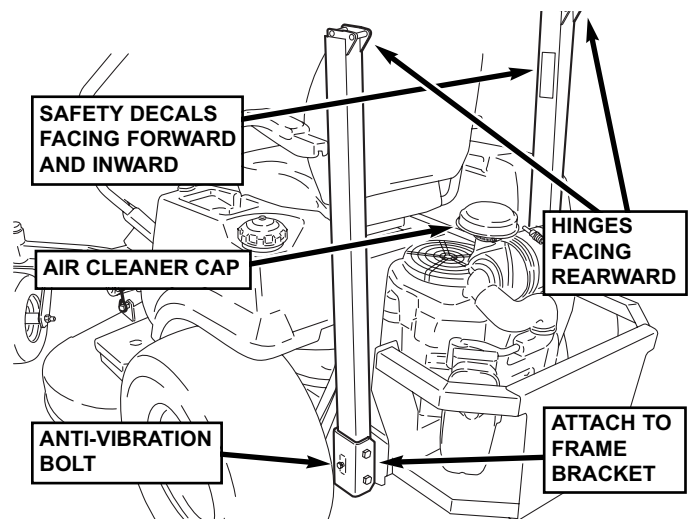

FIGURE 3
- A. Install side bars into frame brackets behind fuel tanks, making sure hinges on top of bars are facing toward rear of machine, and safety decals are facing forward and inward. See Figure 3. Secure each bar to its corresponding bracket with two 1/2-13 x 4-1/2" hex bolts and lock nuts. Do not tighten yet.
STEP 4: Install rain cap onto engine air cleaner assembly, securing with supplied worm drive clamp. Tighten securely. See Figure 3.
- E.** Install anti-vibration bolts into sides of frame brackets, tightening securely. See Figure 3.